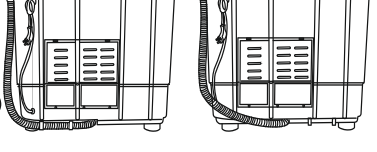

Figure 4 Insert the fixing hook into the installation hole upwards
- Install the two drain hose fixing hooks taken out into the installation hole at the other side of the base frame (to aim at the installation hole accurately you can lean the washing machine forward slightly). Then rotate for 90° (As per Figure 4).
- Select the washing time according to the laundries. (Figure 4)